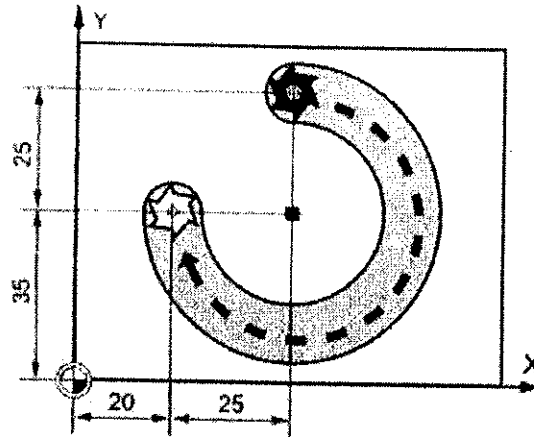

Figure Q3-2
- b) Write a program to machine the groove shown in Figure Q3-2. The depth of the groove is 2mm and width of the groove is 10mm. The tool T02 is flat end mill with 10mm diameter. Start from the header of the program and use G55 as work origin offset, 500mm/min as feed rate and 2000rpm as spindle speed. Use 5mm above the surface as safe level.